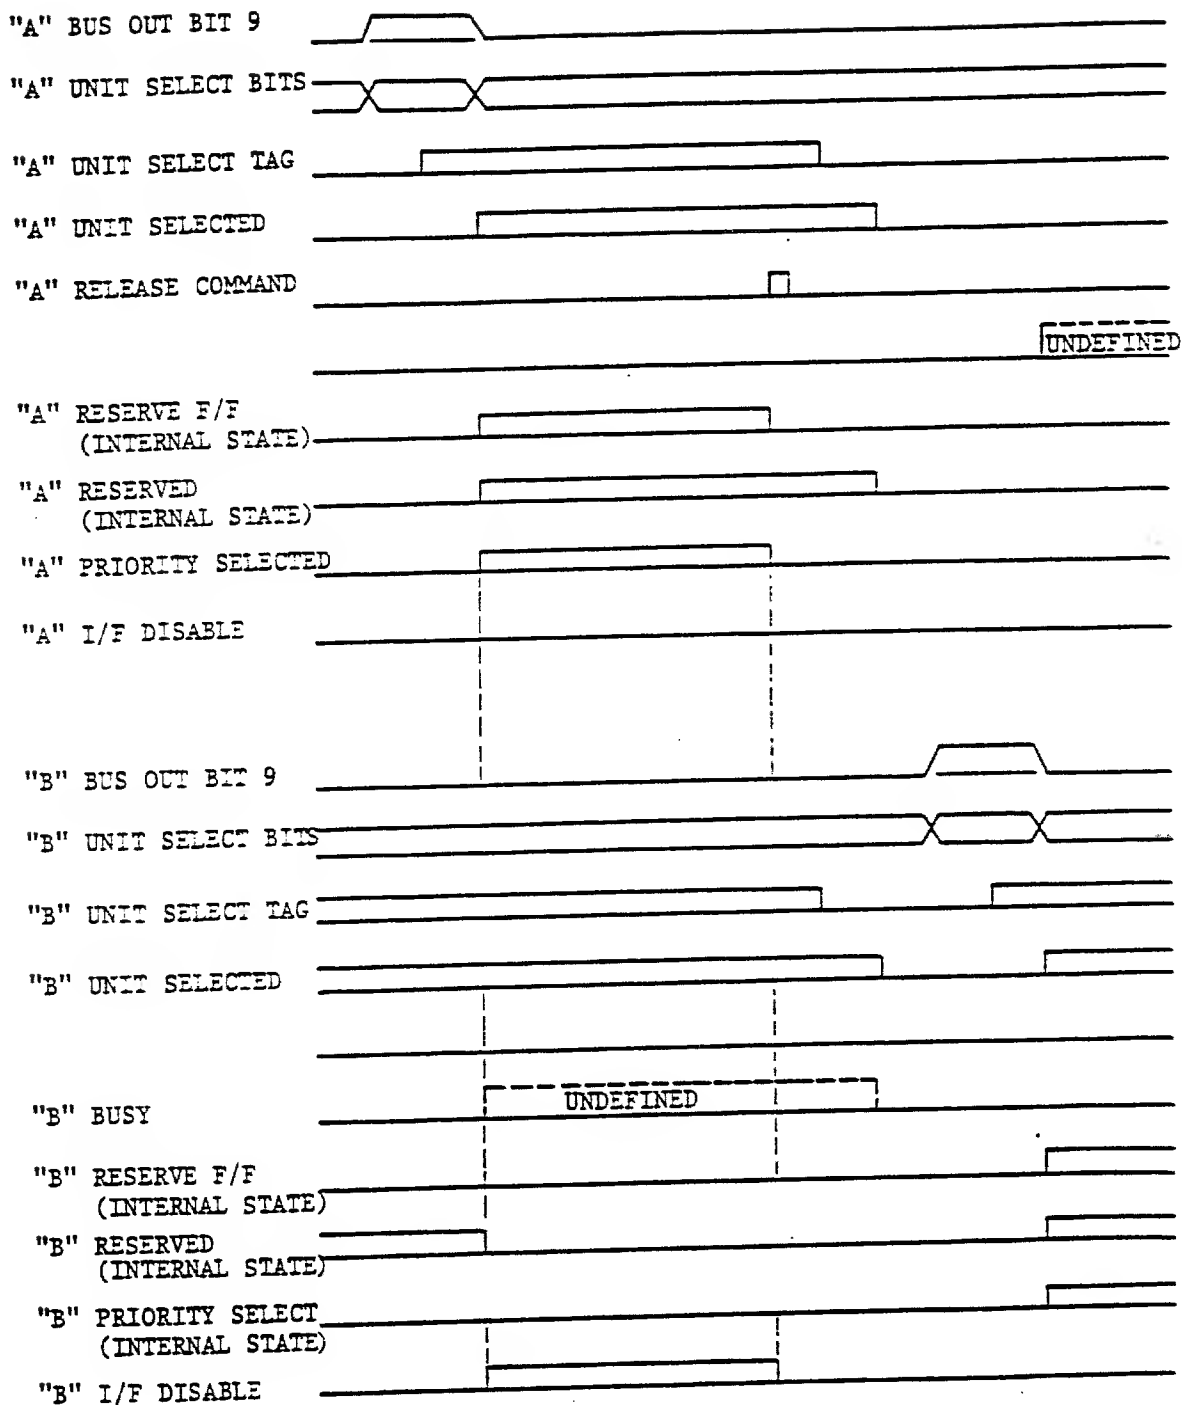

Figure A-3 Sample Priority Select Timing
b) Priority Select (See Figure A-3)